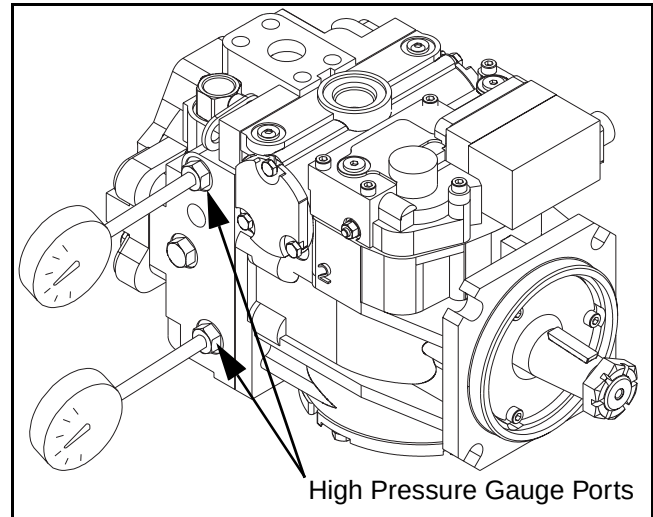

Figure 5 - 15 Install Pressure Gauges
- 2) Install two 10,000 PSI pressure gauges in the high pressure gauge ports. (Figure 5 - 15)